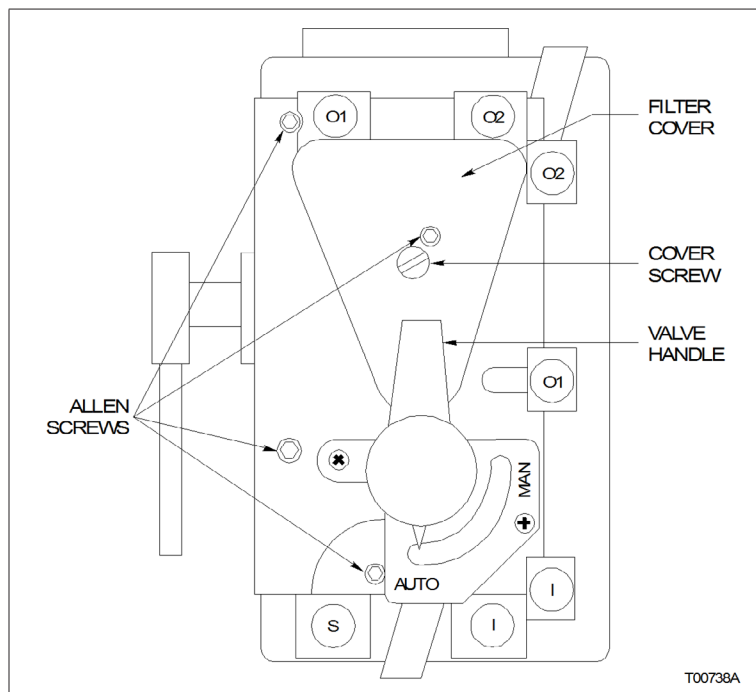

Figure 7-1. Positioner with Manifold
2. After allowing the pressure to bleed off, remove the cover screw securing the filter cover (Fig. 7-1) and set the cover screw and cover aside.